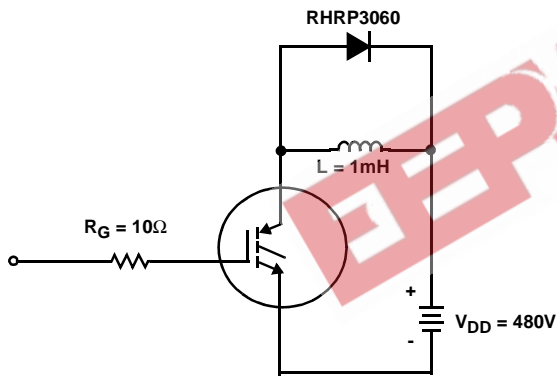

FIGURE 17. INDUCTIVE SWITCHING TEST CIRCUIT
| Current Turn-On Delay Time | $t_{d(ON)I}$ | IGBT and Diode at $T_J = 25^\circ\text{C}$ $I_{CE} = I_{C110}$ $V_{CE} = 0.8 BV_{CES}$ $V_{GE} = 15\text{V}$ $R_G = 10\Omega$ $L = 1\text{mH}$ Test Circuit (Figure 17) | - | 28 | 32 | ns | |
| Current Turn-On Delay Time | $t_{d(ON)}$ | IGBT and Diode at $T_J = 150^\circ\text{C}$ $I_{CE} = I_{C110}$ $V_{CE} = 0.8 V_{CES}$ $V_{GE} = 15\text{V}$ $R_G = 10\Omega$ $L = 1\text{mH}$ Test Circuit (Figure 17) | - | 28 | 32 | ns |
- Values for two Turn-On loss conditions are shown for the convenience of the circuit designer. E_{ON1} is the turn-on loss of the IGBT only. E_{ON2} is the turn-on loss when a typical diode is used in the test circuit and the diode is at the same T_J as the IGBT. The diode type is specified in Figure 17.